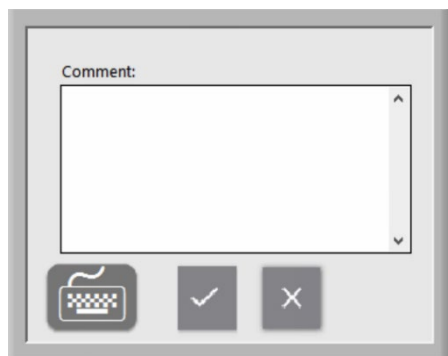

Figure 43: Comment Window
- If desired, a comment can be added to the Assay Results.pdf by tapping on the **Add Comment** button. This will open a Comments window where the user can add a comment (Figure 43).